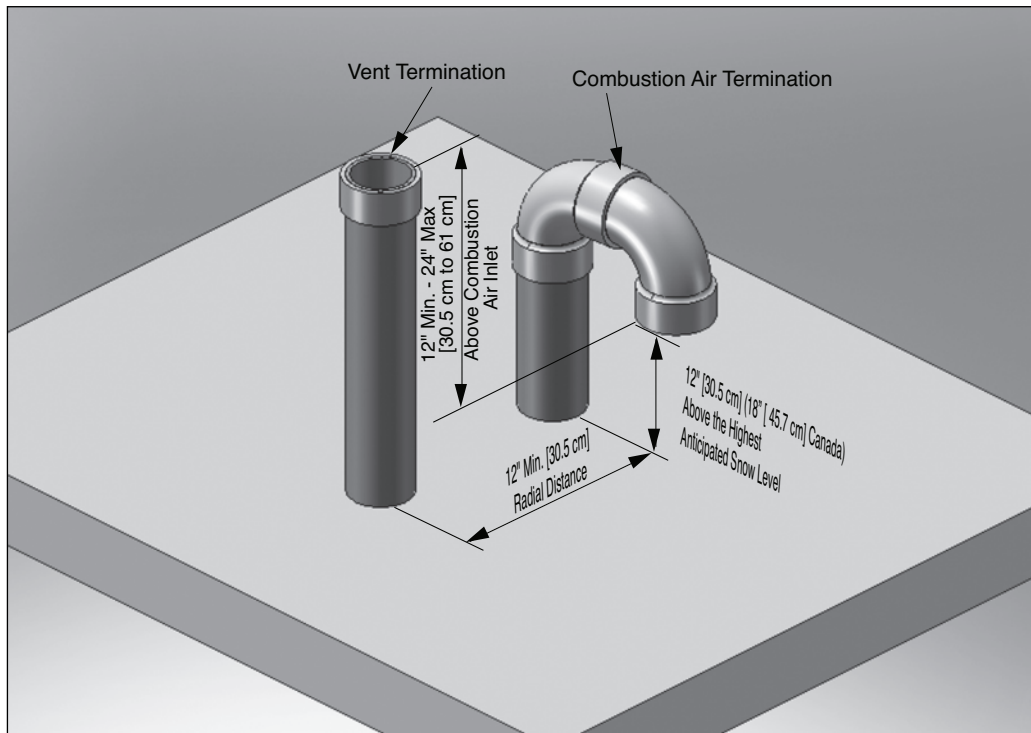

Fig. 1: Direct Vent - Vertical Termination of Vent and Combustion Air Piping.
2. The combustion air piping must terminate in an upside down “U” shape fashion using two 90° elbows as shown in Fig. 1 page 14. The termination must be installed 12” [30.5 cm] (18” [45.7 cm] Canada) above the highest anticipated snow level.
3. The vent must terminate vertically with a coupling to accept the bird screen and must be located 12” to 24” [30.5 cm to 61 cm] above the combustion air inlet as shown in Fig. 1 on page 14.
4. The vent and combustion air terminations must be located a radial distance of 12” to 24” [30.5 cm to 61 cm] from centerline of vent termination to centerline of air termination as shown in Fig. 1 on page 14.
3. Locate the vent and combustion air pipe penetrations to provide clearances as described in Fig. 1 on page 14.
2. The combustion air piping must terminate in an upside down "U" shape fashion using two 90° elbows as shown in Fig. 1 on page 14.
3. The vent piping must terminate vertically with a coupling as shown in Fig. 1 on page 14.
Do not extend the vent pipe above the roof beyond the dimensions shown in Fig. 1 on page 14. Extended exposure of the vent pipe could cause condensate to freeze and block the vent pipe.